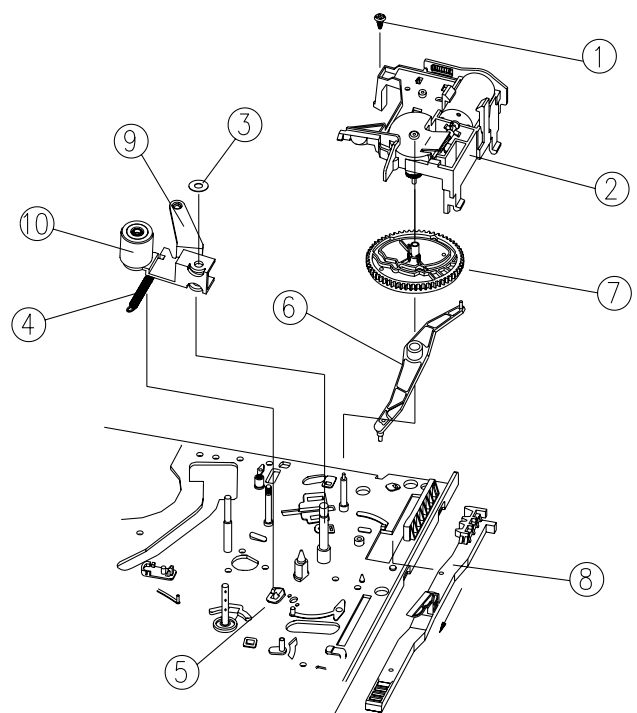

Fig.3-11 L/C BRKT, PINCH LEVER, CAM GEAR, RELAY LEVER, F/L RACK REMOVAL
3-6. L/C BRACKET ASS'Y REMOVAL (See Fig.3-11)
3-7. PINCH LEVER TOTAL ASS'Y REMOVAL (See Fig.3-11)
3-8. CAM GEAR, RELAY LEVER AND F/L RACK REMOVAL (See Fig.3-11)
- Remove the CAM GEAR α from the MAINBASE. (Fig.3-11)
- Remove the RELAY LEVER α from the MAINBASE. (Fig. 3-11)